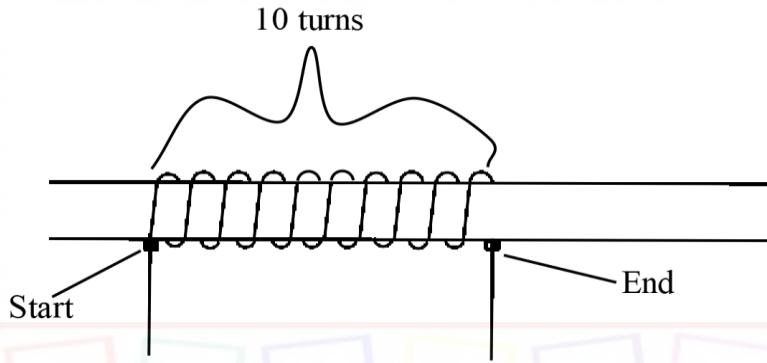

Figure 3
- (c) Wind the thread provided around the straw as shown in Figure 3 to make 10 closely packed turns.